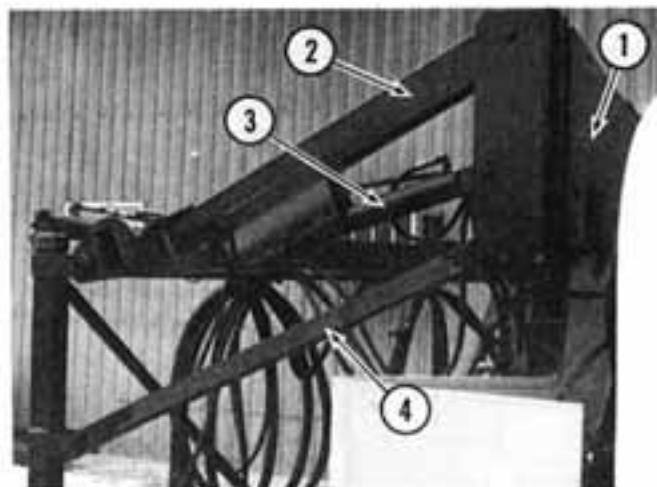

Figure 1
1. First, attach right hand (Item 1) and left hand (not shown) lift arm mounts; tighten all bolts. See Figure 1.
2. Install upper lift arm weldment (Item 2) to lift arm mounts (Item 1), using proper bushings and bolts provided. See Figure 1.
3. Install lift cylinders (Item 3), using correct bushings and bolts. See Figure 1.
4. After installing the lift cylinders, install two lower lift arm weldments (Item 4), using correct bushings and bolts. See Figure 1.